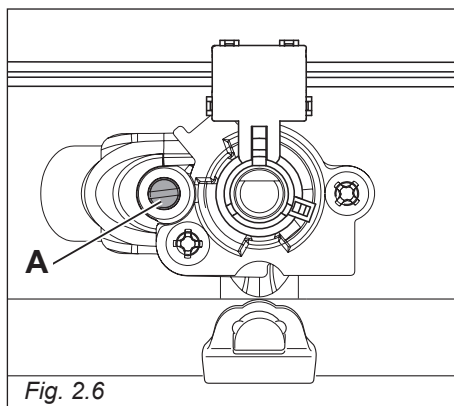

Fig. 2.6
- With a thin screwdriver turn the screw "A" until adjustment is correct (fig. 2.6).